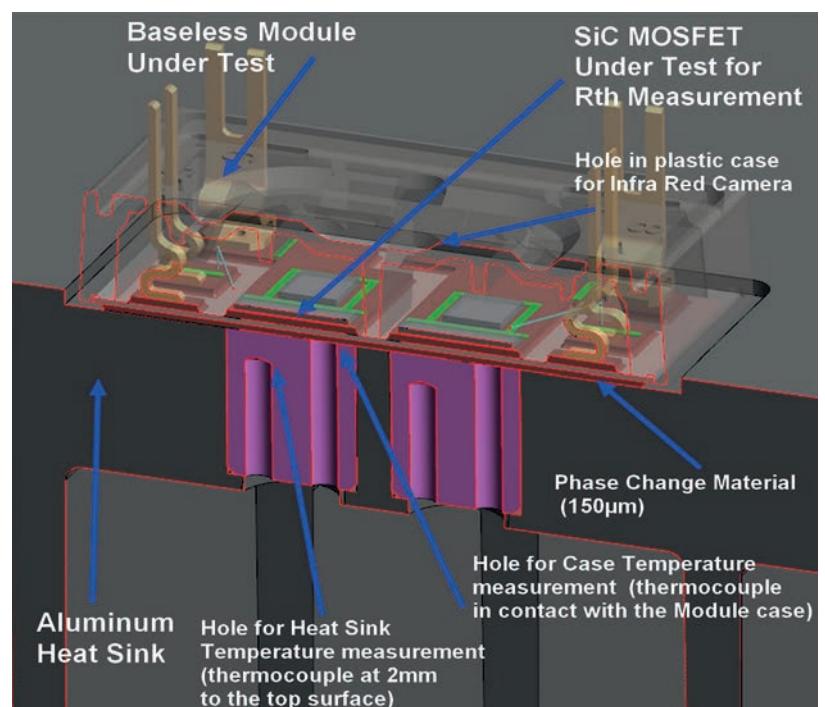

Figure 6: Thermal measurement setup
- Thermal simulations and measurements. Thermal simulation determines the DUT thermal resistance and thermal impedance values, while thermal measurement confirms the thermal resistance junction-to-heatsink calculated during the simulation. The switch under test, previously prepared with a modified package (Figure 6) was turned on, and a constant-current generator produced a junction temperature increase